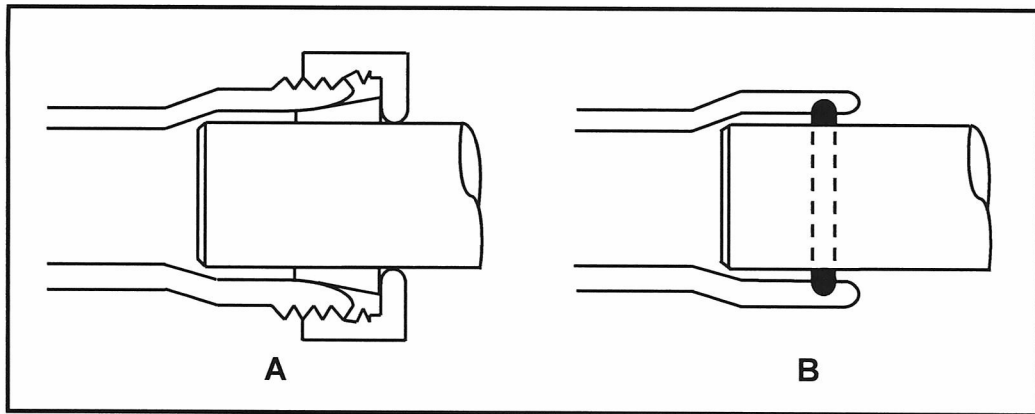

FIGURE 6.2
6.2 FIGURE 6.2 below shows TWO different types of joining methods for joining PVC pipes.